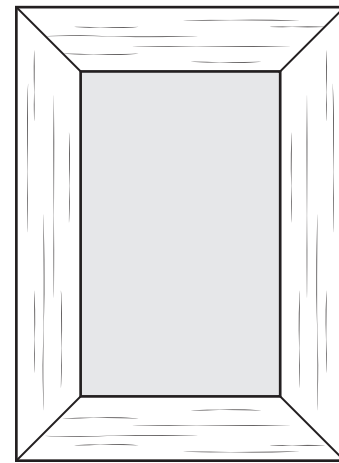

Fig. 13.5
- (i) Add sketches and notes to Fig. 13.5 to show how the string could be tensioned to hold the sides of the frame in place.